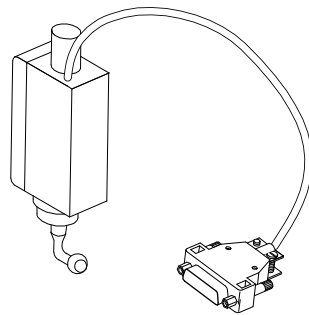

Fig. 7.3
**Speed control unit** SWG2 (**Fig.7.3**)